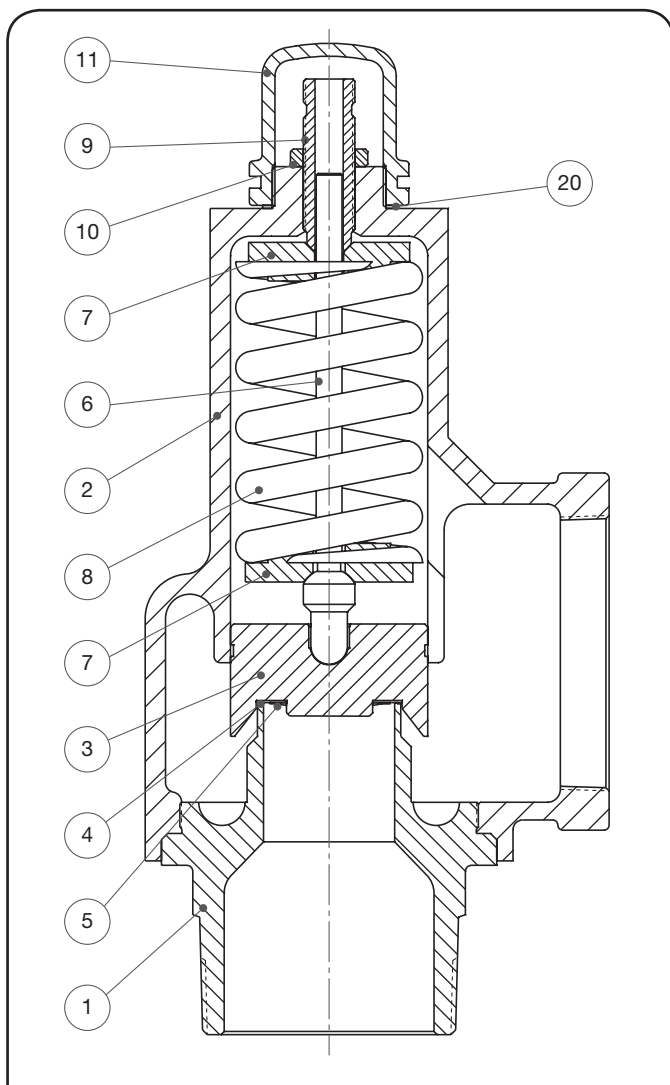

Figure 1: 2478 Standard Soft Seat Design
1. Part Name (See Figures 1 to 2).